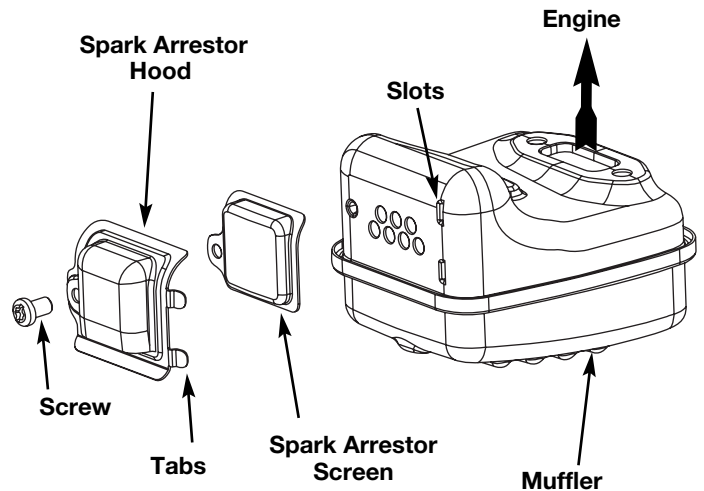

Fig. 26
2. Locate the muffer, but do not remove it. Find the screw on the bottom of the muffer (Fig. 26). Remove the screw using either a torx #20 or flat blade screwdriver.